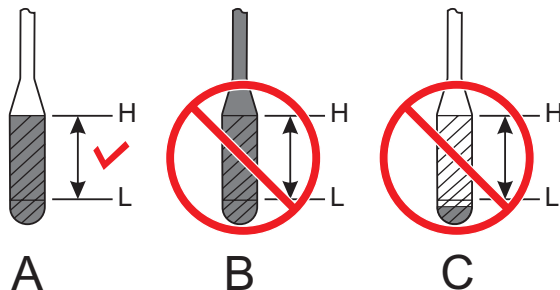

Figure 7. Engine Oil Level
3. Reinsert the dipstick, then remove the dipstick from its holder. Check the oil level shown on the dipstick (Figure 7).